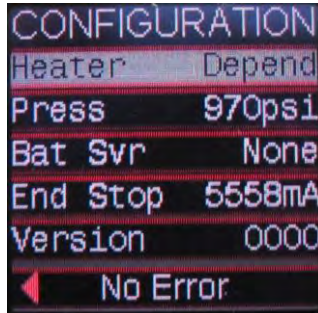

Figure 6
- **No Errors** – No errors present (Fig. 6).